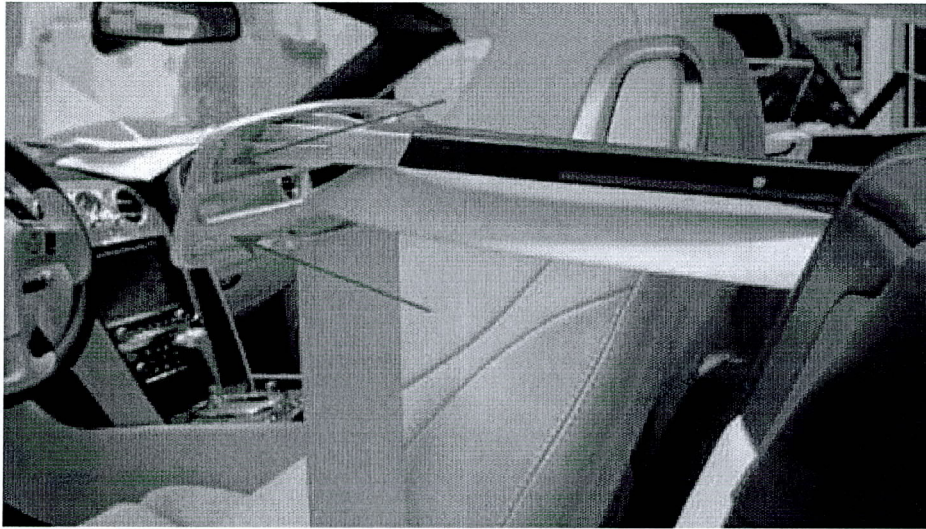

Figure 2
3. The seat belt presenters will now maintain this deployed position. Using a propriety solvent degrease the rear face of the presenter and allow solvent to dry (See Figure 2)